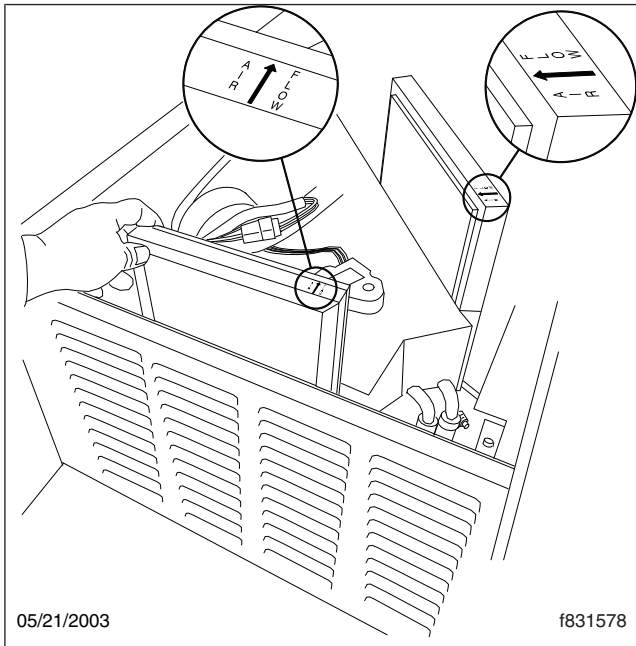

Fig. 5, Orientation of Sleeper Fresh-Air Filters
3. Remove the air filters from the sleeper HVAC assembly. See Fig. 5.
4. Install new air filters in the sleeper HVAC assembly. Make sure the arrow on the air filter is pointing toward the sleeper HVAC assembly; see Fig. 5.
3. Remove the air filters from the sleeper HVAC assembly. See **Fig. 5**.
5. Install the air filters in the sleeper HVAC assembly. Make sure the arrow on the air filter is pointing toward the sleeper HVAC assembly; see **Fig. 5**.